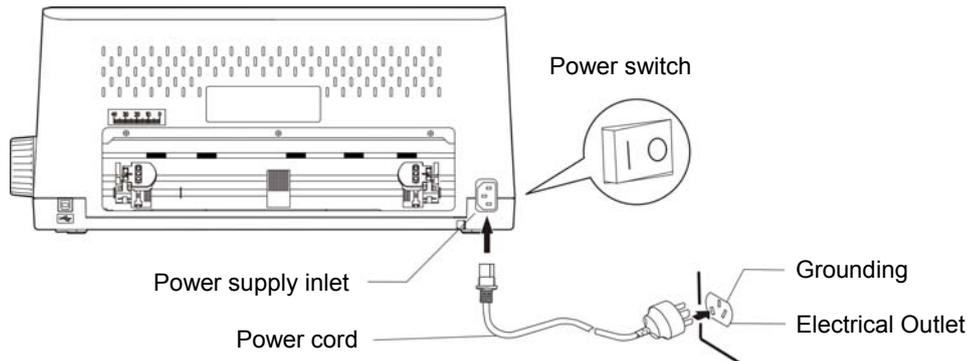

Figure 2-14 Connecting the power cord to the printer
1. As Figure 2-14 shown, make sure the printer is turned off. (The pressed down side on the switch with "O" mark denotes the printer is off)